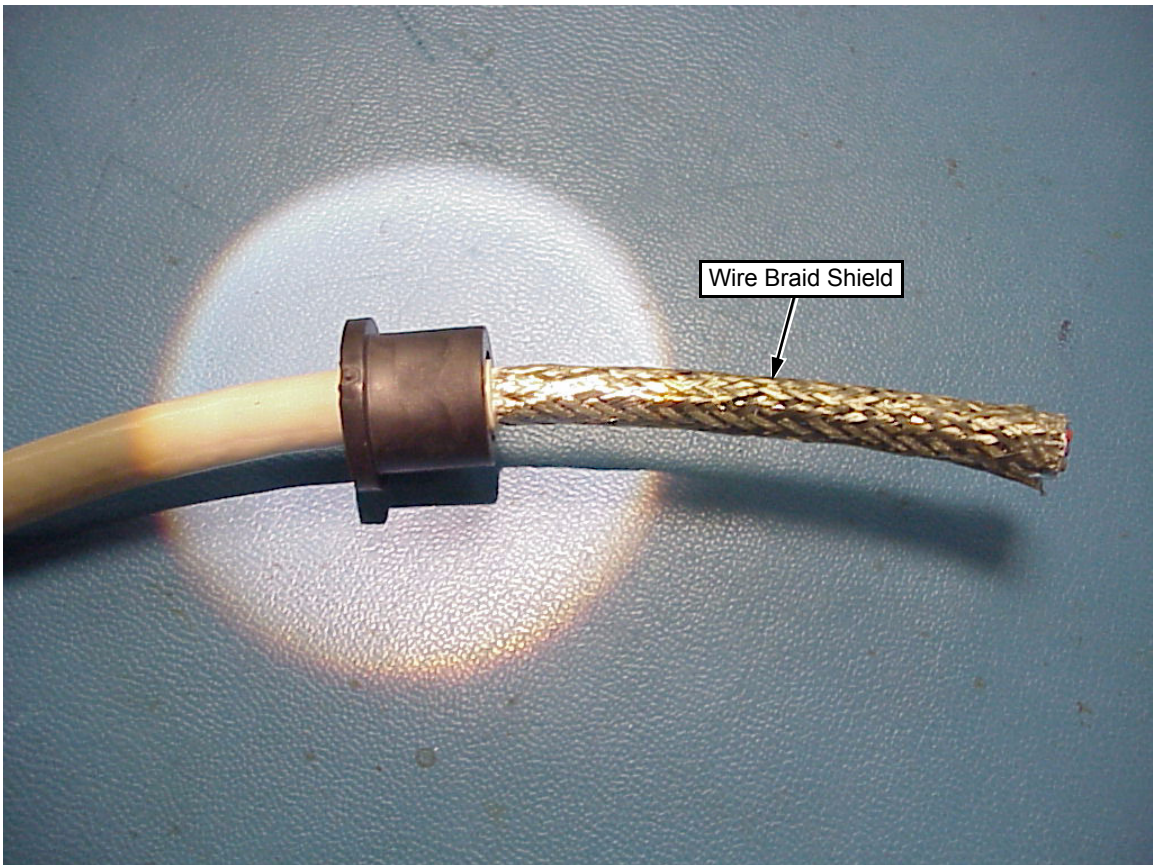

Figure 8. Removing the Outer Cable Sleaving
2. Strip off the outer cable sleaving without damaging the wire braid shield. (Figure 8.)